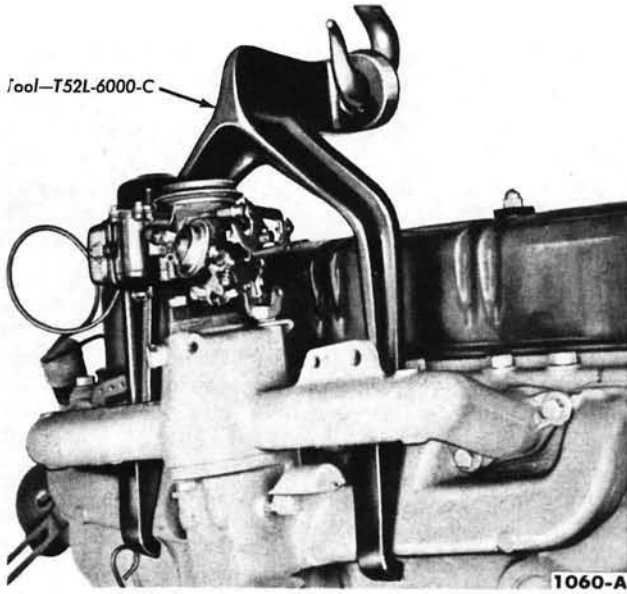
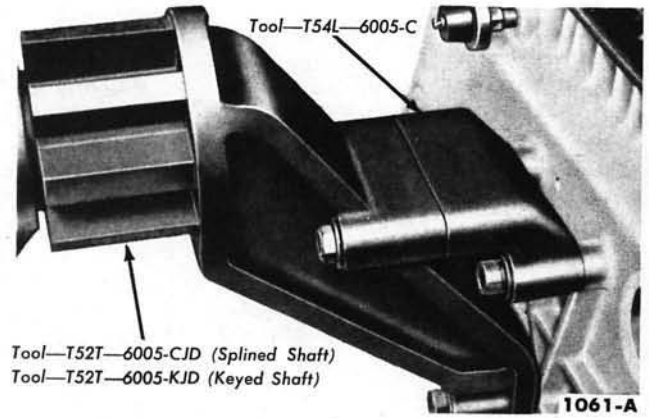

FIG. 7—Engine Lifting Hook
FIG. 9—Engine Mount
5. Attach the engine lifting hook (Fig. 7). Remove the engine right and left front support to frame bracket bolts. Lift the engine out of the engine compartment and install it on a work stand (Fig. 9).